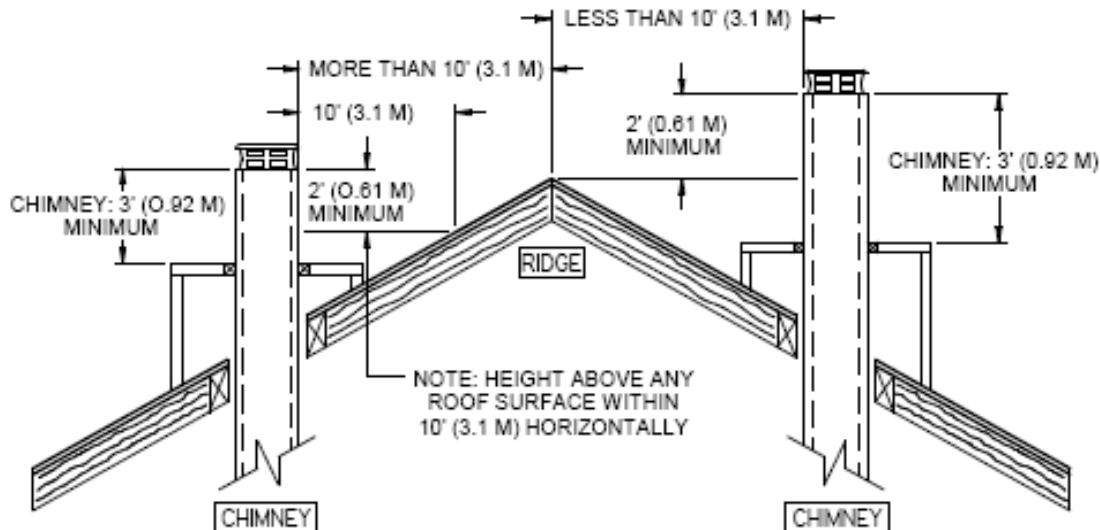

Figure 28a
12. When you build a chase enclosure for chimney sections above the roof, the chimney must extend at least 3 ft. (92 cm) above the chase enclosure and at least 2 ft. (61 cm) higher than any wall, roof or building within 10 ft. (3.1 m) of it. See **Figure 28a and 28b** to determine the configuration that applies to your roof (flat or sloped roof and the distance between the chimney and the highest point of the roof and/or the nearest chimney).